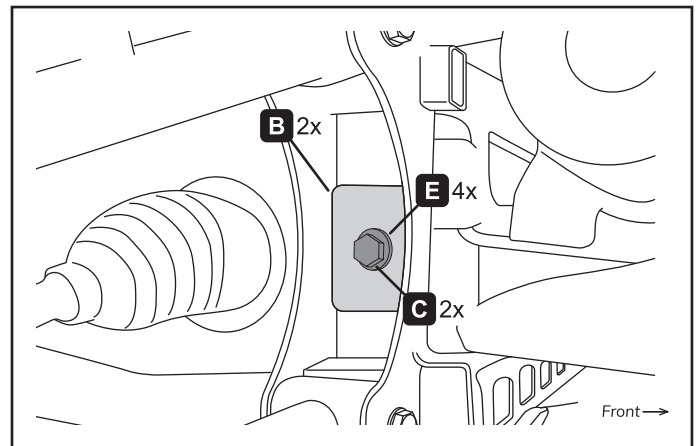

Figure 8. Wolverine X2, Wolverine X4 rear bolt location
**Wolverine X2/Wolverine X4:** Install bolts (C), washers (E) and nuts (D) with backer plate (B) as shown in figures 8 and 9.